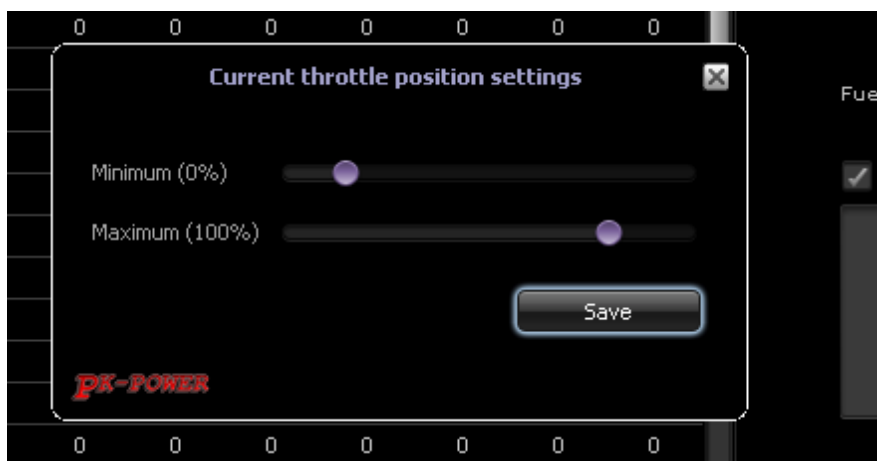

Fig 3.1
5. A new window with two slide controls opens (Fig 3.1)